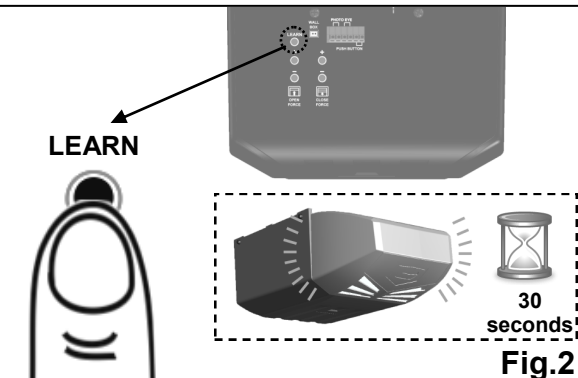

Fig.2
1. See Fig.2 to add a remote. Press the “LEARN” button on the rear control panel of the opener. The courtesy light will illuminate with an audible click*. The unit is now ready to learn a remote.